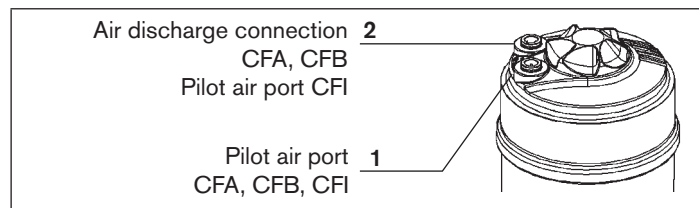

Fig. 33: Pneumatic connection
- Connect the control medium to the pilot air port 1 and 2 of the actuator (see “Fig. 33”)
- Plug the silencer into the free air discharge connection 2 (see “Fig. 33”).